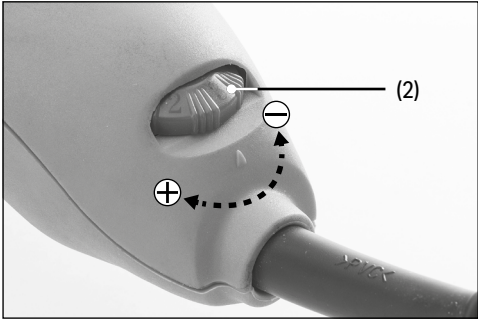

Fig. 11
- To switch 'ON' – slide the switch (1) forward.
- To switch 'OFF' – slide the switch (1) backwards.
7.2 Variable Speed Control – Fig.11